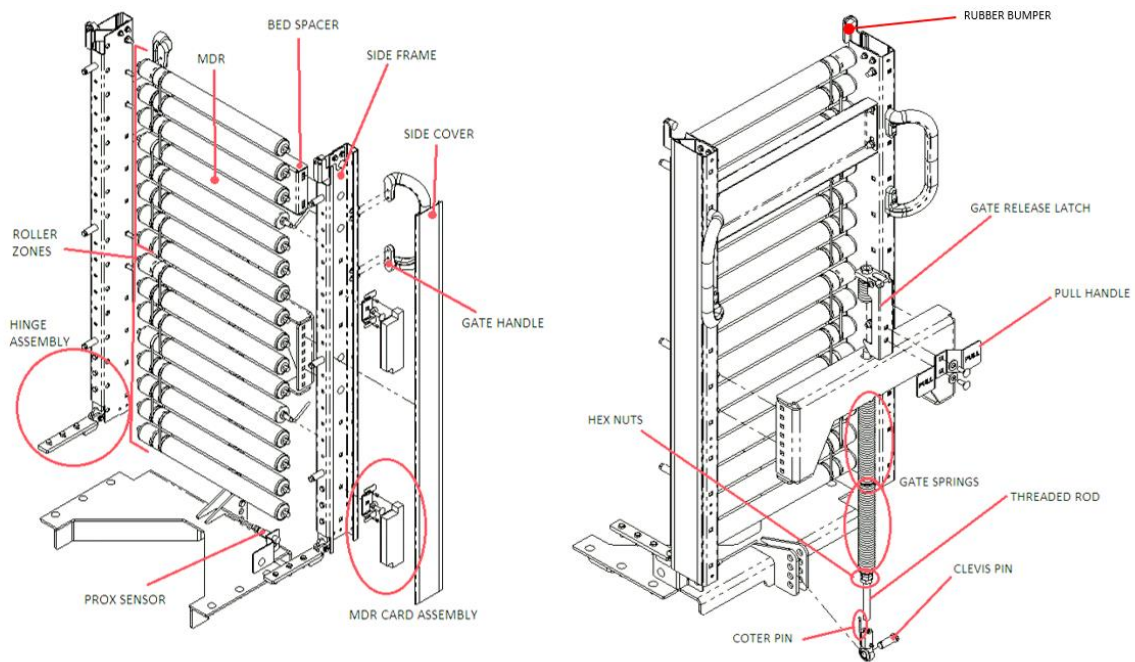

Figure 1: RLVD CG General Arrangement
| Figure 1: RLVD CG General Arrangement | 7 |
The model shown in Figure 1 serves as a reference to become familiar with the components and terminology used in this manual. These terms will be used throughout the manual and are common among many of the other Bastian Solutions’ Conveyor product lines.
The model in Figure 1 shows a 4' RLVD CG. The RLVD CG has 3" roller centers and has (2) 24" zones. Each zone is made up of (7) rollers and (1) MDR. The rollers and MDRs each have two grooves that allow them to be banded together with O-rings. Each gate utilizes springs to make opening and closing the gate lightweight and easy to use.